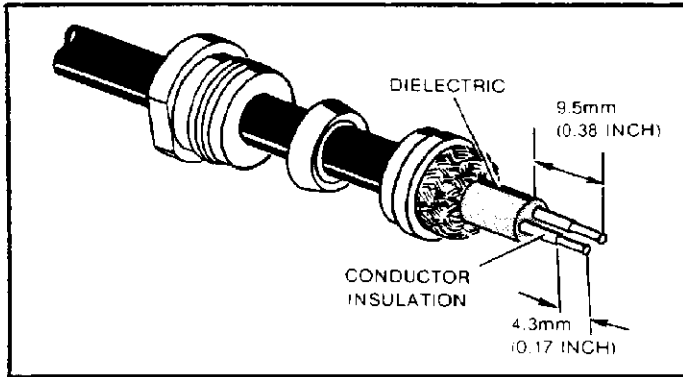

Figure 4
- (f) Strip the dielectric and conductor insulation to dimensions shown in Figure 4.